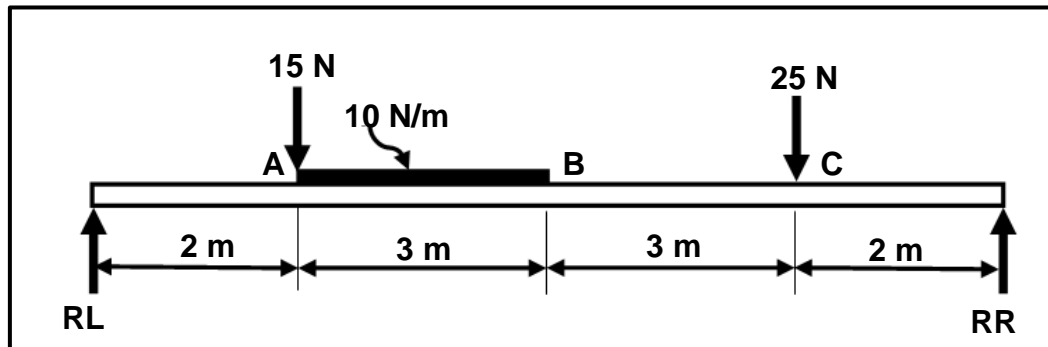

FIGURE 7.1
- 7.1 FIGURE 7.1 below shows a beam supported by two vertical supports, **RL** and **RR**. Two vertical point loads, 15 N and 25 N, are exerted onto the beam. A uniformly distributed load of 10 N/m is exerted over a length of 3 m.